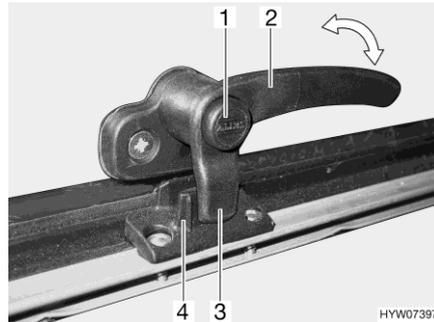
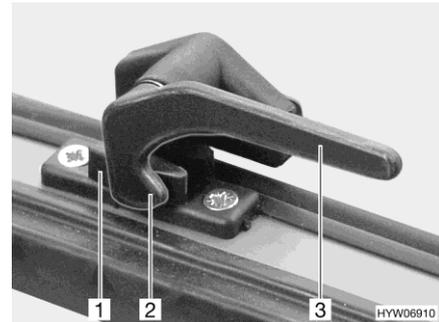

Fig. 69 Catch lever with safety knob in "closed" position
Fig. 70 Catch lever in "closed" position
- Press and hold the security button (Fig. 69,1), if present.
- Turn the catch lever (Fig. 69,2 or Fig. 70,3) a quarter turn towards the centre of the window.
- Turn the catch lever (Fig. 69,2 or Fig. 70,3) a quarter turn towards the window frame.
The locking catch (Fig. 69,3 or Fig. 70,2) on the catch lever is entirely on the inner side of the window catch (Fig. 69,4 or Fig. 70,1).
- "Firmly closed" (Fig. 69 and Fig. 70)